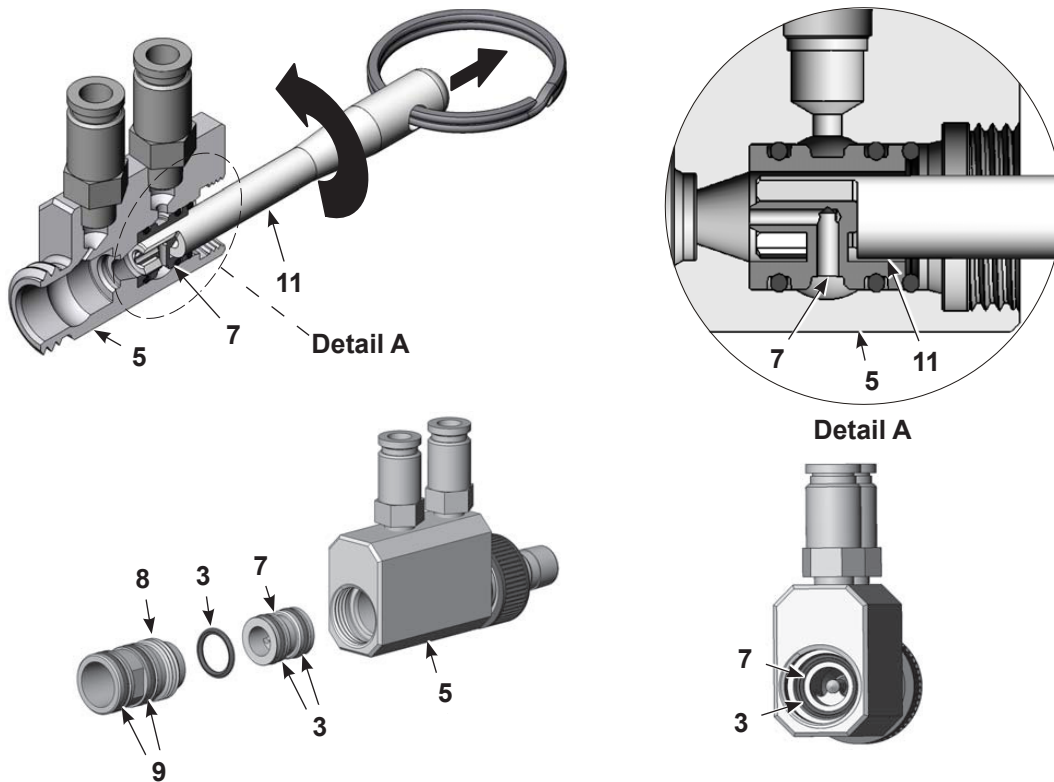

Figure 4 Injector Removal and Installation
1. See Figure 4. Unscrew the injector adapter (8) from the pump body (5) with a wrench.
2. Insert the extraction tool (11) into the injector (7) and rotate it clockwise to hook the injector spider as shown. Turn the tool clockwise while pulling on it to remove the injector from the pump body.
4. Install two O-rings (3) onto the injector, then press the injector into the pump body, making sure the injector nozzle is pointing toward the output end of the body. The extraction tool can be used to seat the injector fully into the bottom of the pump body bore.
5. Inspect the loose O-ring (3) and make sure it is not damaged or twisted. Insert it into the pump body and seat it against the injector. The end of the extraction tool can be used to make sure it is seated correctly.